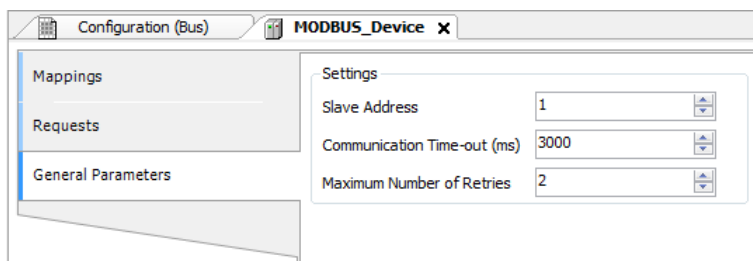

Figure 62: Device General Parameters Settings
- Add and configure devices via the General Parameters tab, defining the slave address, communication time-out and number of communication retries as can be seen in Figure 62.